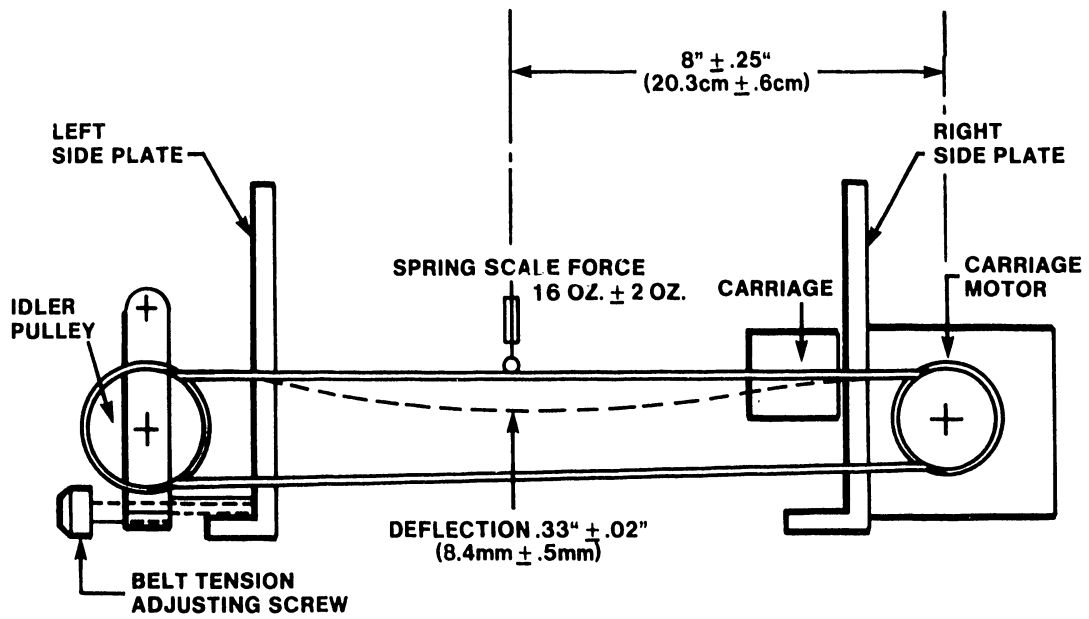

Figure 5-6 Carriage Belt Tension
- b. Connect a 3/16" offset Allen wrench to the belt adjusting screw shown in Figure 5-6.